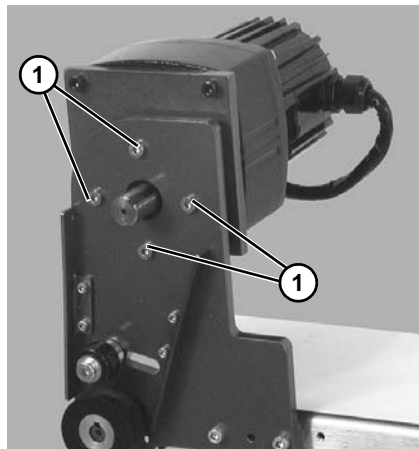

Figure 27
4. Remove four gear motor mounting screws (**Figure 27, item 1**). Remove gearmotor/adapter plate Assembly.
7. Install gearmotor/adapter plate assembly on mounting bracket with screws (**Figure 27, item 1**). Tighten screws to 103 in-lb (12 N-m).